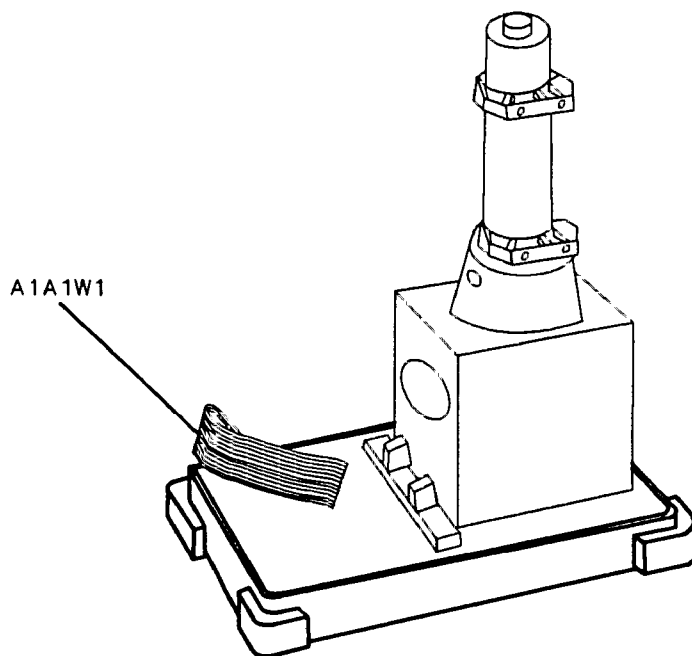

Figure 3-6. Placing the CRT into the Front Frame
2. Gently place the A18 CRT Assembly into the A1 Front Frame Assembly as illustrated in Figure 3-6.